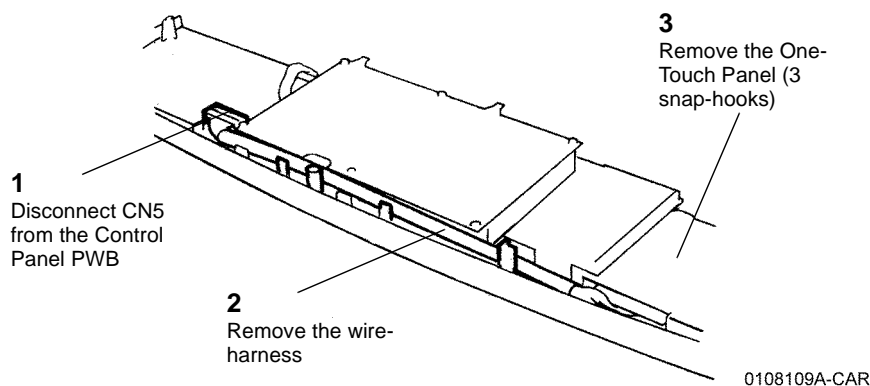

Figure 2 Removing the One-Touch Panel connector
3. Remove the One-Touch Panel (Figure 2).